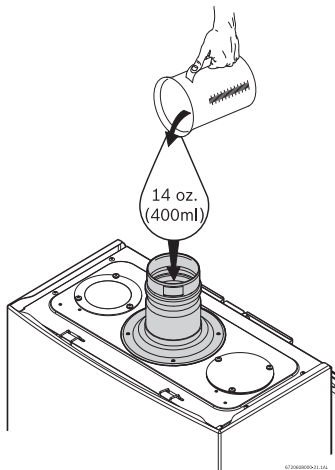

Fig. 30 Filling the condensate trap at start up
Although recirculation directly through the tankless water heater is allowed, temperature stability is improved by recirculating through a mini-tank as shown in Fig. 30. By using the design in Fig. 30, there is no recirculation of hot water through the tankless water heater and therefore, does not affect the heat exchanger warranty of 15 years. Direct recirculation through the tankless water heater is permissible, however, the heat exchanger warranty is reduced to 3 years; contact Bosch Thermotechnology for further installation requirements. The following drawing is provided to outline one possible recirculation design using the water heater in conjunction with an Ariston mini tank water heater. This schematic is for illustration only and must not be used for actual Installation without appropriate engineering and technical advice from a properly licensed professional in the locality where the installation is made.
- Fill the condensate trap by pouring approx. 14 oz. (400ml) of water into the exhaust accessory on the top of the appliance, see Fig. 30.